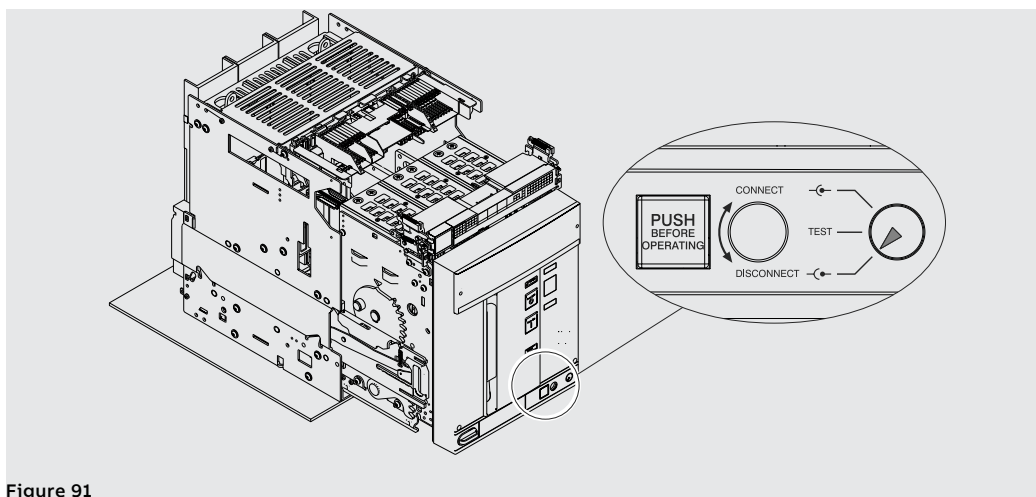

Figure 91
6. Make sure that the signalling device indicates the **DISCONNECT** position. See Figure 91.